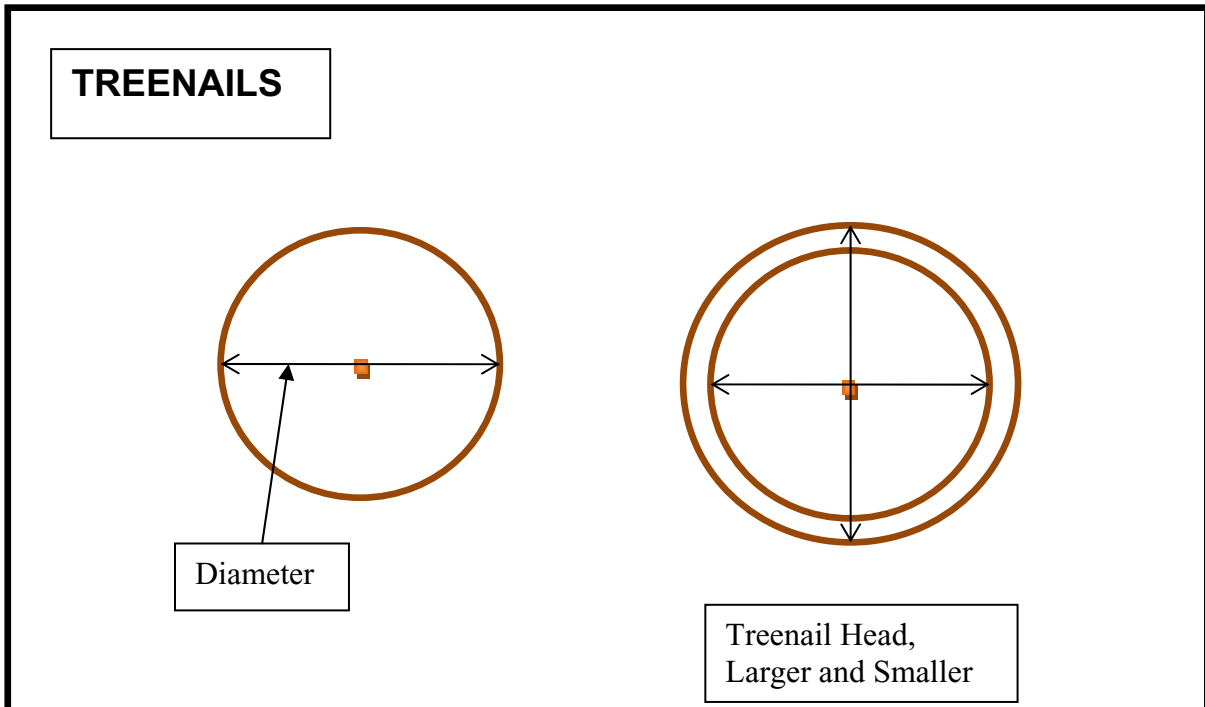

Figure 7. Capturing metrical data from the treenails
Treenail Diameter: Measure diameter of treenail or treenail hole. When measuring the fastener, it doesn't matter where you start, as long as you cross the centre during the measurement (Figure 7).
**Additional Nails:** Measure width (shanks tend to be squared), and width of head if present. Note location: forward scarf (FS), aft scarf (AS), inboard land (IL), outboard land (OL), inboard body of plank (IBP), outboard body of plank (OBP) or upper edge of plank (UEP), or lower edge of plank (LEP).
**Treenail heads:** If present, record maximum and minimum diameter (Figure 7).